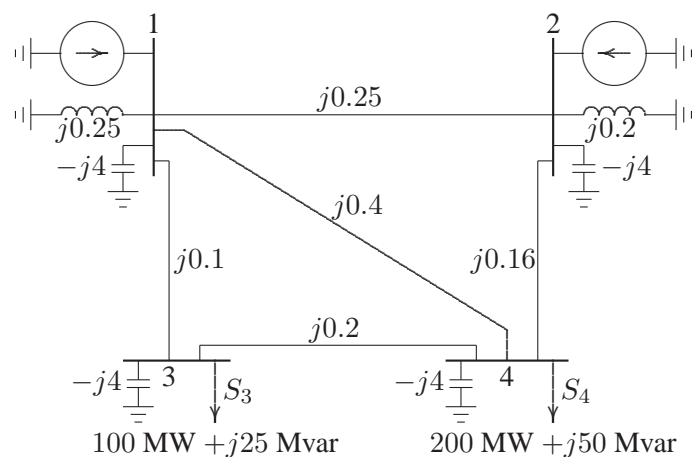

FIGURE 47
6.1. A power system network is shown in Figure 47. The generators at buses 1 and 2 are represented by their equivalent current sources with their reactances in per unit on a 100-MVA base. The lines are represented by π model where series reactances and shunt reactances are also expressed in per unit on a 100 MVA base. The loads at buses 3 and 4 are expressed in MW and Mvar.